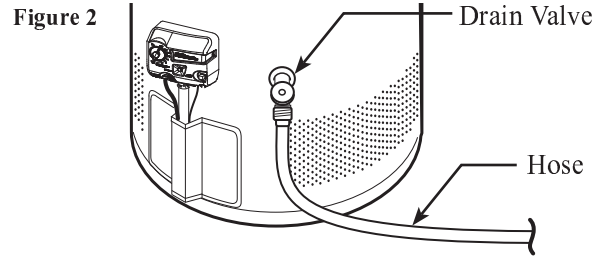

Figure 2
2. DRAINING THE WATER HEATER: Shut off the inlet water supply to the water heater. Connect the female end of a garden hose to the drain valve on the water heater and route the other end of the hose to a drain or suitable draining area. Open a hot water faucet to allow air to flow into the water heater tank then open the drain valve. See Figure 2.
6. **CONNECTION OF PILOT SUPPLY TUBE, BURNER SUPPLY TUBE AND WIRING TO THE COMBINATION GAS CONTROL:** Install the inverted flare end of the burner supply tube into the combination gas control. Hand thread the hex nut fitting on the burner supply tube into the control. Ensure that the fitting is properly aligned with the control; otherwise, cross threading of the connection will occur. Tighten the fitting using a 3/4" open-end wrench. See Figure 2.